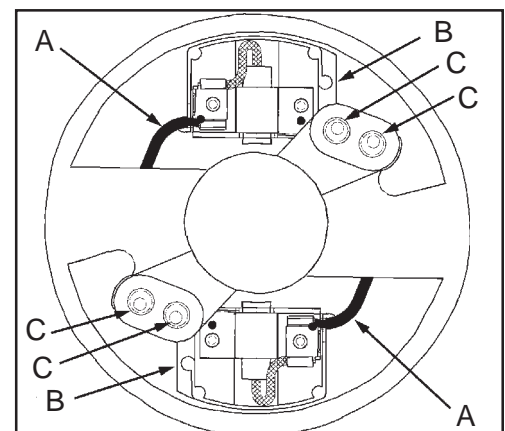

Figure 13
3. To replace the brushes, disconnect the field wire (A) from the brush holder (B). Then remove the two screws and washers (C) securing the holder to the motor housing. See figure 13.